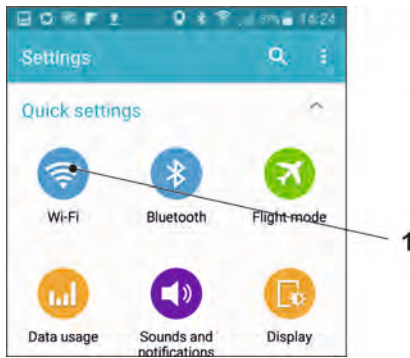

Fig. 31-3 WLAN symbol
3. Select WLAN (Fig. 31-3 no. 1).